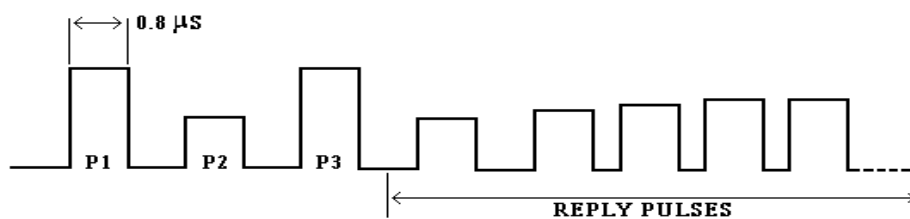

Figure 5. Pulse train (example).
(2) Set switches as listed in (a) through (d) below:
(3) Set TI **MODE** switch to each of its positions and adjust oscilloscope to observe presence of complete interrogation pulse trains (see figure 5), making sure that TI **ACCEPT** light is lit in each mode.
(4) Set TI **MODE** switch to **1**.